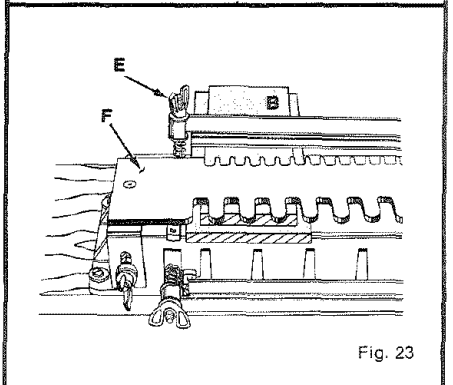

Fig. 23
13. See Figure 23. With your dovetail template set-up as shown, cut your joint in board (B) as a single piece.